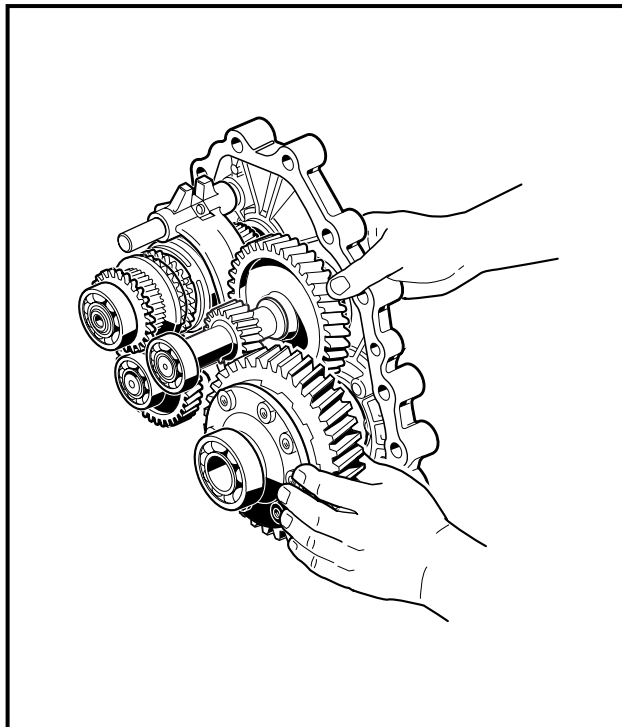

Figure 16-41 Loosen Gears
- Turn the case section containing the gearing on edge as shown (**Figure 16-41, Page 16-17**). While holding it in this position, gently rock all the gear assemblies to slightly loosen them in their seating.